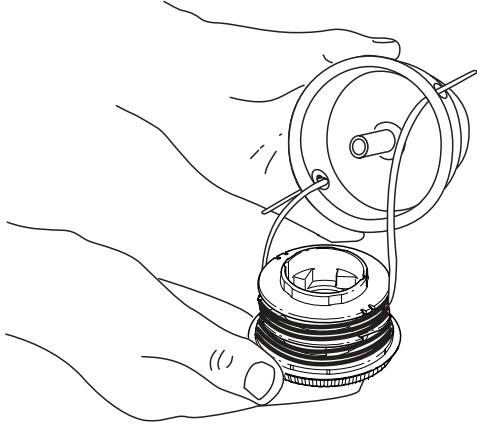

Fig. 47
3. Insert the ends of the prewound inner reel line into the outer spool eyelets (Fig. 47). Push the new inner reel, arrow side up, into the outer spool.
3. Pull the inner reel with existing line from the outer spool (Fig. 47).